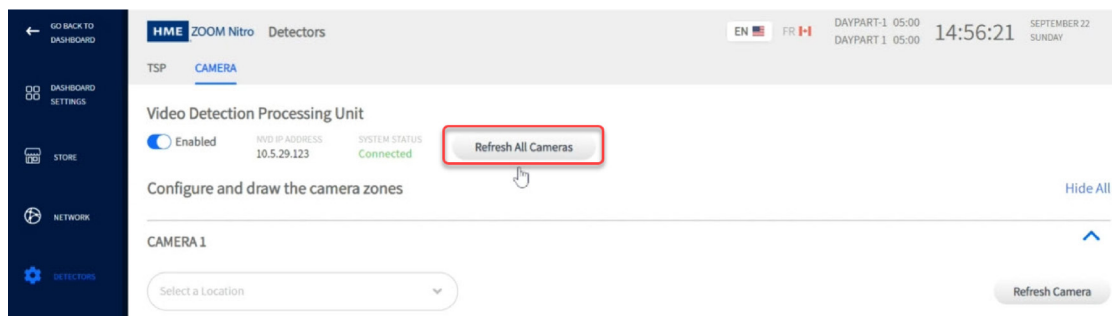

Fig. 17
4. The Camera page will populate. Click/tap the "Refresh All Cameras" button (Fig. 17).